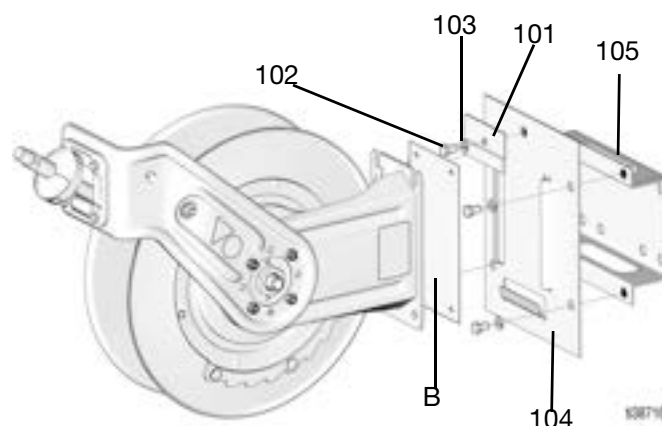

FIG. 13
NOTE: The base plate (104) can be directly mounted to the wall for easier installation and removal of the hose reel for servicing (FIG. 13).
- For mounting the reel directly to the wall, use the provided template (B) to lay out the holes for drilling (FIG. 13).
- For mounting with Kit 24H193, mount the base plate (104) to the wall, slide the hose reel onto the base plate (104), then install the hold down plate (101), the washer (103), and the cap screw (102). Tighten the screw firmly (FIG. 13).
- For mounting with Kits 24A934-24A939, mount the channel (105) to the wall, mount the base plate (104) to the channel (105), slide the hose reel onto the base plate (104), then install the hold down plate (101), the washer (103), and the cap screw (102). Tighten the screw firmly (FIG. 13).
- Slide the hose reel onto the base plate (104) then install the hold down plate (101), washer (103), and cap screw (102). Tighten the screw firmly (FIG. 13).